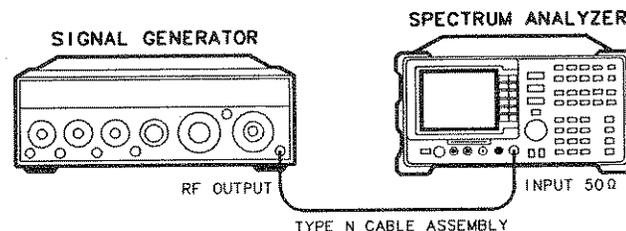

Figure 4-6. Residual FM Test Setup
1. Connect the equipment as shown in Figure 4-6. *Option 026:* Use the APC adapter to connect the cable to the analyzer input.